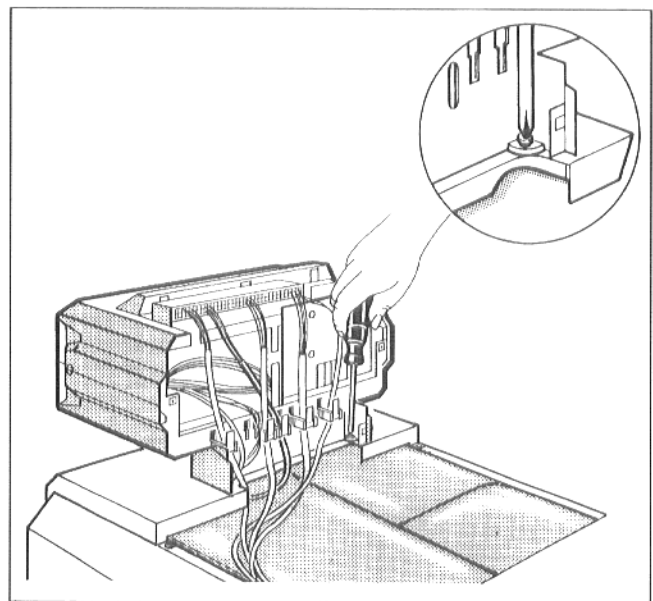

Fig. 3: Screwing on the control panel
- Secure the Ecomatic to the jacket with the screws provided (Fig. 3).